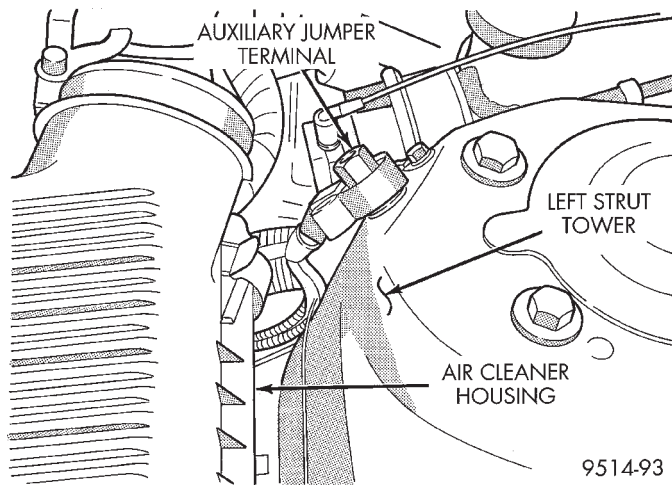

Fig. 34 Auxillary Jumper Terminal
- (1) Disconnect negative cable from auxillary jumper terminal (Fig. 34).